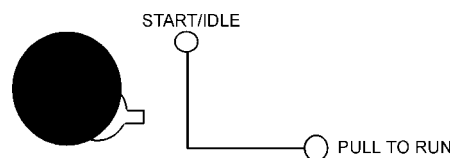

Figure 44. Engine Throttle Lever (Up)
9. Pull the engine throttle lever and turn left until the lever sets on the knob (Figure 44).